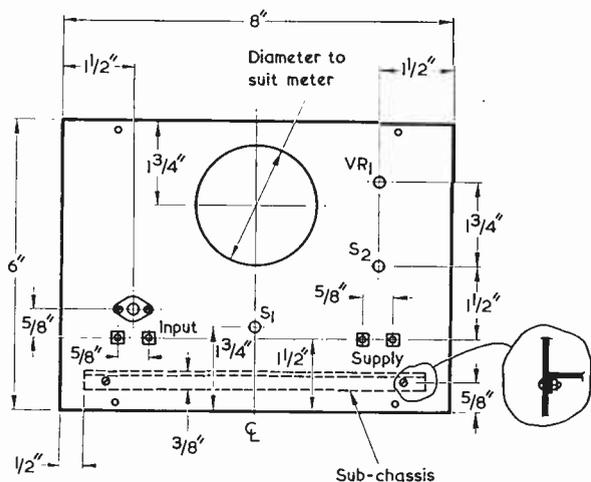

Fig. 8. The front panel, viewed from the front of the instrument
The front panel layout, with relevant dimensions, is shown in Fig. 8. To simplify construction the components on the front panel should be mounted and wired up before the sub-chassis and component board are fitted. The attenuator resistors R1 to R5 are wired directly across the switch contacts. Screened
*Rear view of the prototype model, illustrating the positions of the larger components. (The electronics board wiring shown here differs somewhat from the layout given in Fig. 8; an And gate and inverter preceding the relay driver were included when the photograph was taken, these being later removed as unnecessary)*